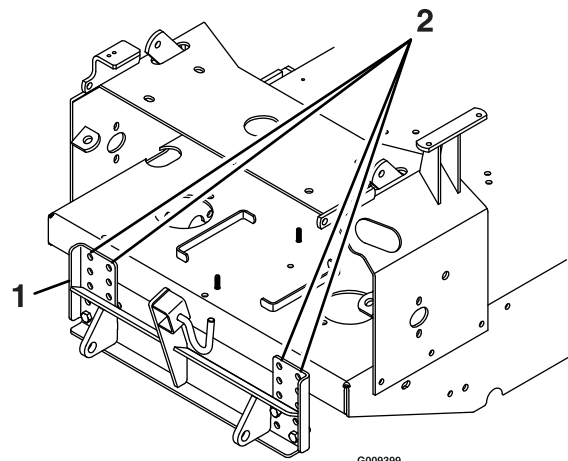

Figure 6
- c. Center the adapter plates on the lower rear surface of the mower engine deck and mark the four hole locations shown in Figure 6. Drill four 0.407 inch diameter holes through the engine deck at the marked locations.